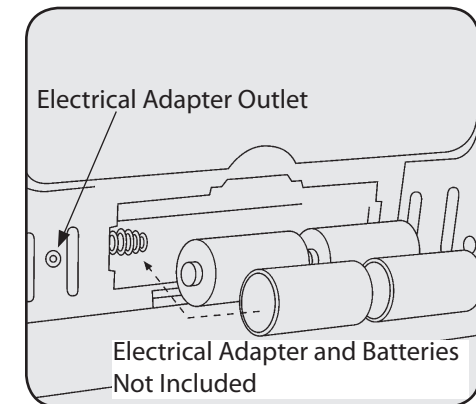

Figure 6
12. Installation of 4 D-cell batteries is required for fan operation. Battery box is located on lower back panel of heater. Follow instructions on battery cover for correct battery installation. See Figure 6.
13. Heater fan can also be powered by electrical adapter F276127. Required adapter to be 6 volt DC up to 800 milliamp current with positive tip polarity. See Figure 6.
13. Installation of 4 D-cell batteries is required for fan operation. Battery box is located on lower back panel of heater. Follow instructions on battery cover for correct battery installation. See Figure 6.
14. Heater fan can also be powered by electrical adapter **F276127**. Required adapter to be 6 volt DC up to 800 milliamp current with positive tip polarity. See Figure 6.